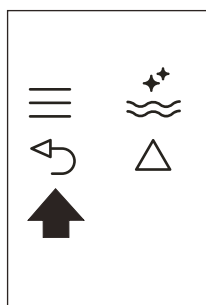

Fig. 25
- Press the icon  (B6) (Fig. 25) twice to exit the menu.